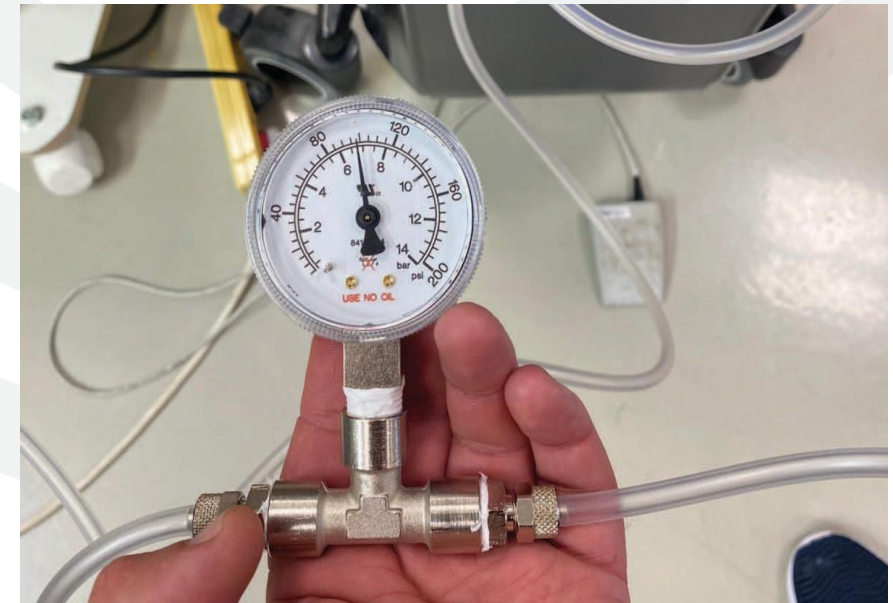

Figure 3
3. Connect the air tube with Pressure Gauge **(figure 3)** to luer and to hand piece